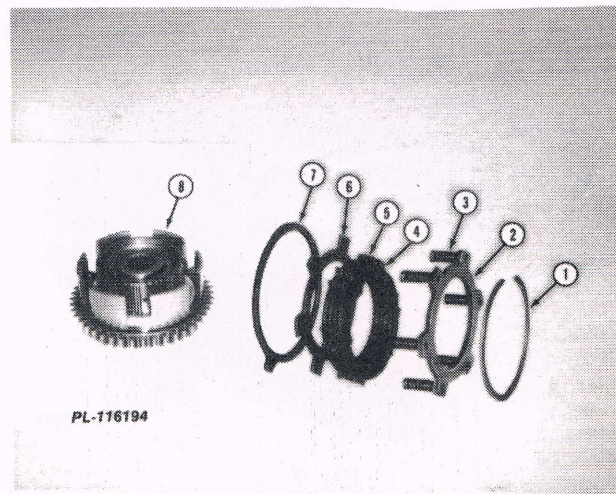

Fig. 5
2. Remove the backing plate (2), springs (3), clutch discs (4), clutch plates (5), piston return plate (6) and brake ring (7). See Fig. 5.